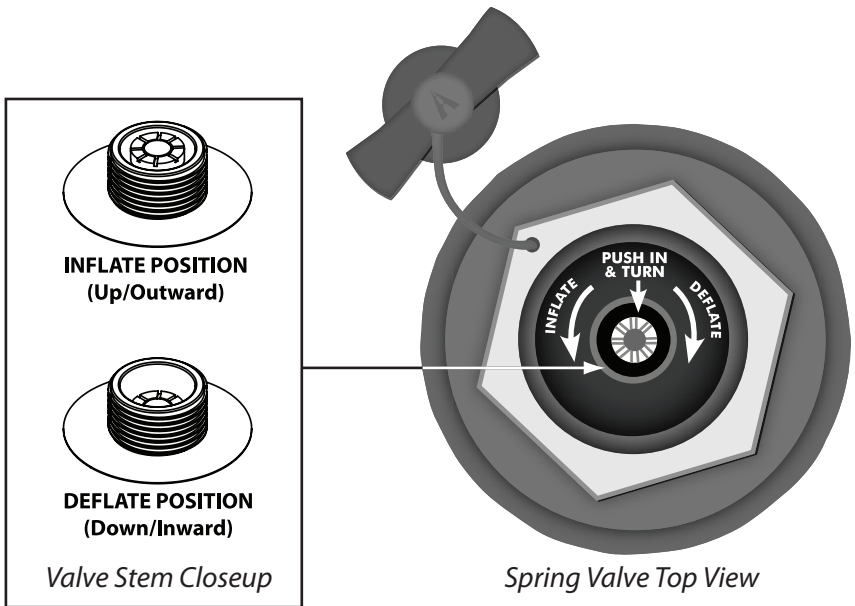

Figure 1. Inflate/Deflate Spring Valve
1. Starting with Main Chamber 1, check to be sure that the valve plunger is UP or in the INFLATE position (*See Figure 1 on previous page*).
1. Moving to Main Chamber 2 on the inside of kayak, check to be sure that the valve plunger is UP or in the INFLATE position (See Figure 1) and inflate until firm to touch (**2.0 psi ONLY**).
2. Push stems inward and rotate to deflate position (See Figure 1).